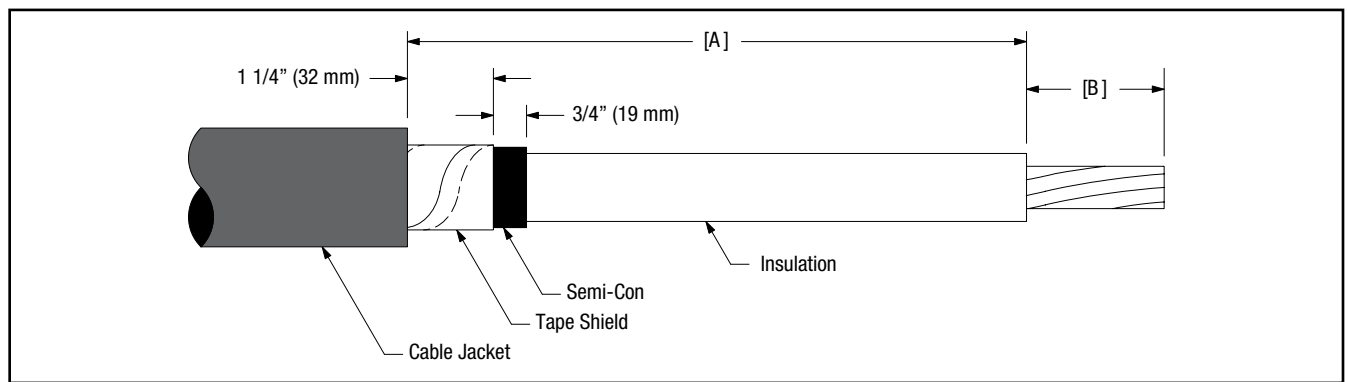

Figure 1
- 2.2 Prepare cable using dimensions shown in Figure 1 and Table 2. BE SURE TO ALLOW FOR DEPTH OF TERMINAL LUG Dimension [B]. If necessary to prevent tape shield from unrolling, hold down edge with a single wrap of 3M™ EMI Copper Foil Shielding Tape 1181.